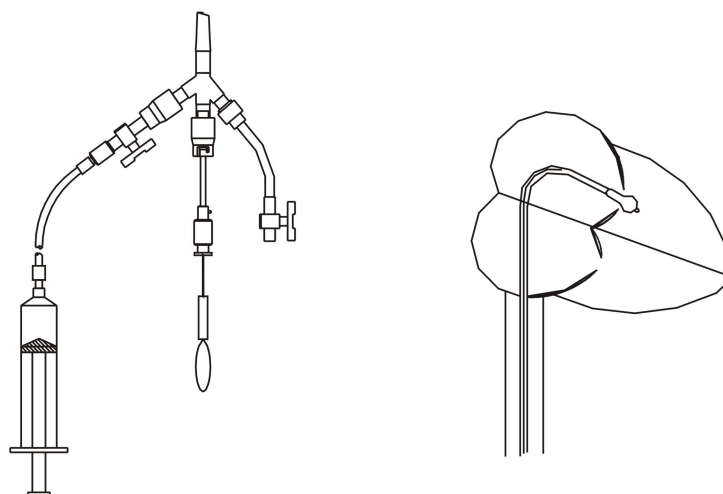

Fig. 24 Inflating the Balloon
**Caution: Do not pull the catheter too strong or too light, otherwise it will disposition the balloon and affect the efficacy (see fig. 24).**